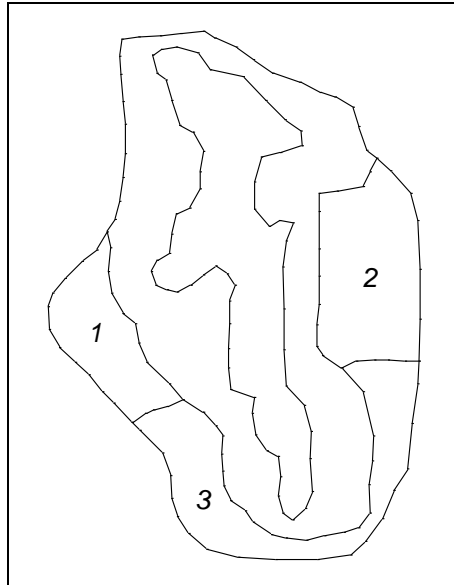

Figure 5. Polygons to be selected.
3. While holding the *Shift* key, select polygons 1 and 2 shown in Figure 5.
7. Double-click on polygon 3 shown in Figure 5 to open the *Attribute Table* dialog.